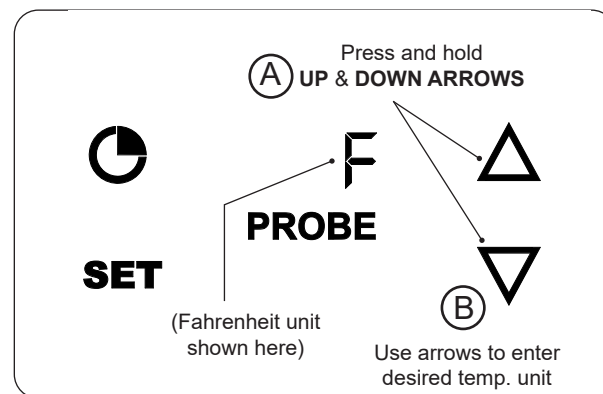

Fig. 37-4 Change temp. unit
1. Press and hold the **UP** and **DOWN** arrows until °F or °C is displayed (Fig. 37-4, A).
2. Press the **UP** or **DOWN** arrow to select the desired temp unit (Fig. 37-4, B).